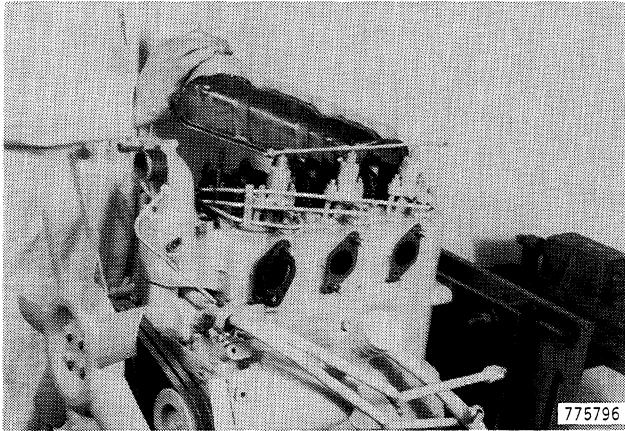

Figure 50
25. Remove the valve cover, Figure 50.